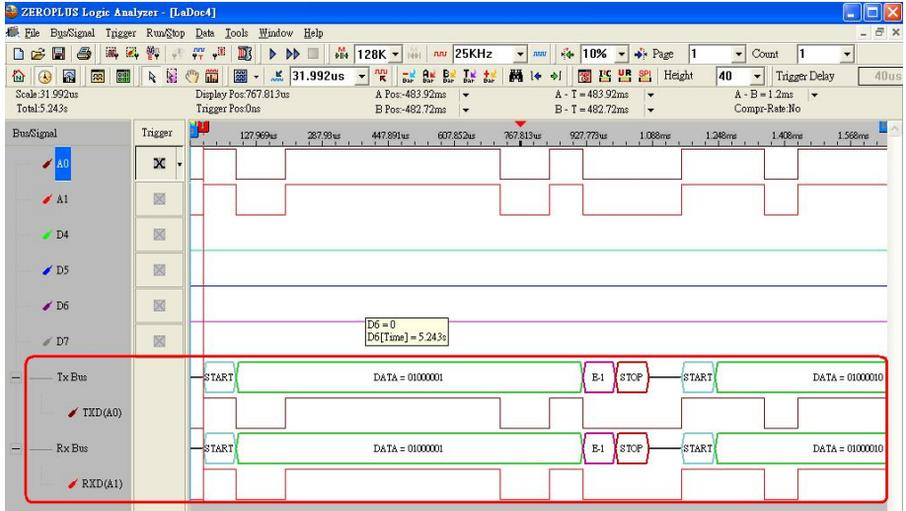

Fig 4-34 – Wave Analysis
Step 6. Click Run, then Active the UART signal from the tested UART circuit to acquire the result on the bottom of the wave display area as shown in Fig 4-34.